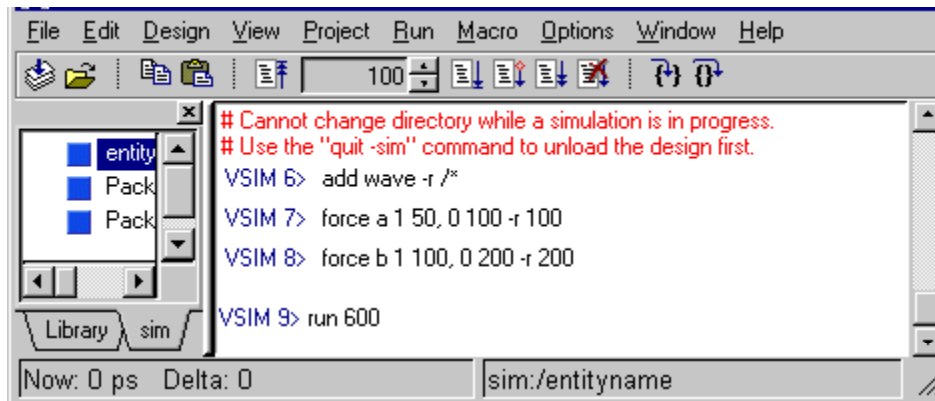

Figure 09 Stimulus
13. Apply the following stimulus in the Modelsim window, see **Figure 09**.